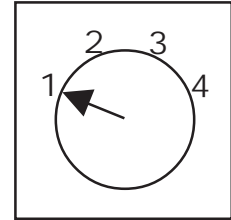

Figure 1 – 4 Voltage Setpoints
4 Voltage Setpoints (Fig. 1)	Customer Requirements
1. Before installing, turn regulator over and select appropriate voltage setpoint for battery type and charging system configuration (See Table 1 and Fig. 1).